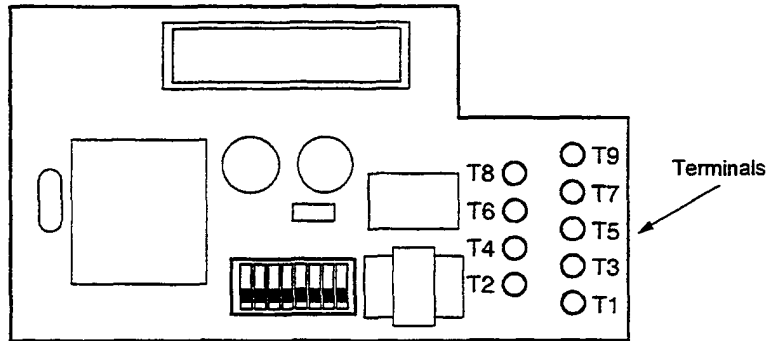

Figure 4-7 ADA-U Unit
2. Locate the adapter terminals on the right side of the unit as illustrated in Figure 4-7 ADA-U Unit.